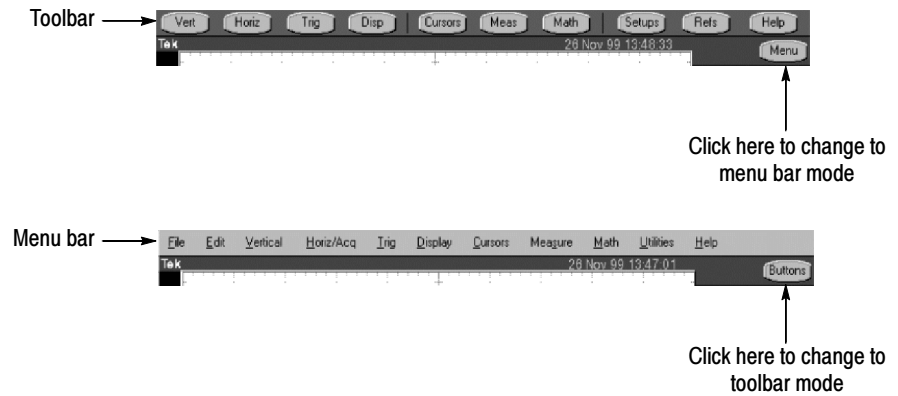

Figure 4-1: Toolbar and menu bar
- The term “toolbar” refers to a row of buttons at the top of the display. The term “menu bar” refers to a row of menus at the top of the display. You can switch between toolbar and menu bar operating modes by pushing the button near the top right corner of the display. See Figure 4-1.